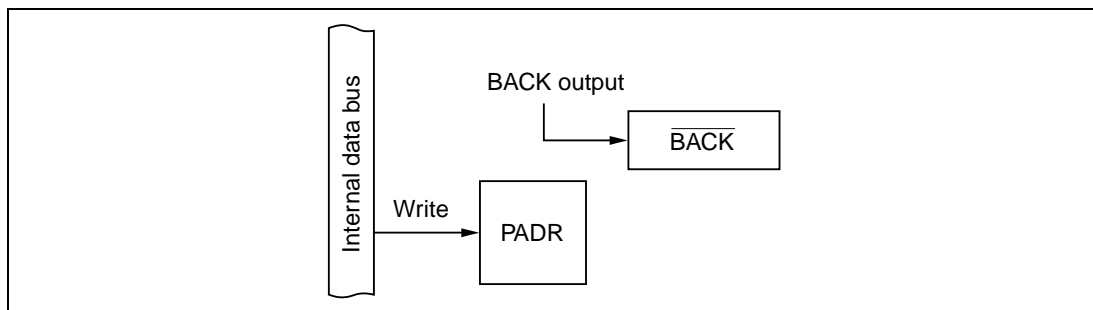

Figure 10-66 $\overline{\text{BACK}}$ Output Pin (Modes 1 to 6)
(4) **$\overline{\text{BACK}}$ Pin (PA_6 ; Modes 1 to 6):** Figure 10-66 shows a block diagram illustrating the $\overline{\text{BACK}}$ function. Table 10-49 indicates register read/write data. When PA_6 is used for $\overline{\text{BACK}}$ output, the value written in the port A data register (PADR) has no effect. When read, PADR returns an undetermined value.